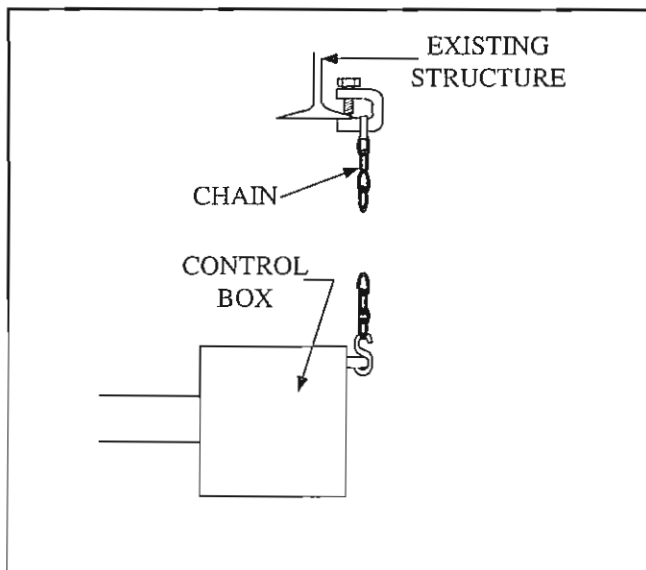

Figure 1-8
- Use of number 3 double-loop chain is recommended for heater hanging (DTHS accessory No. DTH-CS). See Figure 1-8.